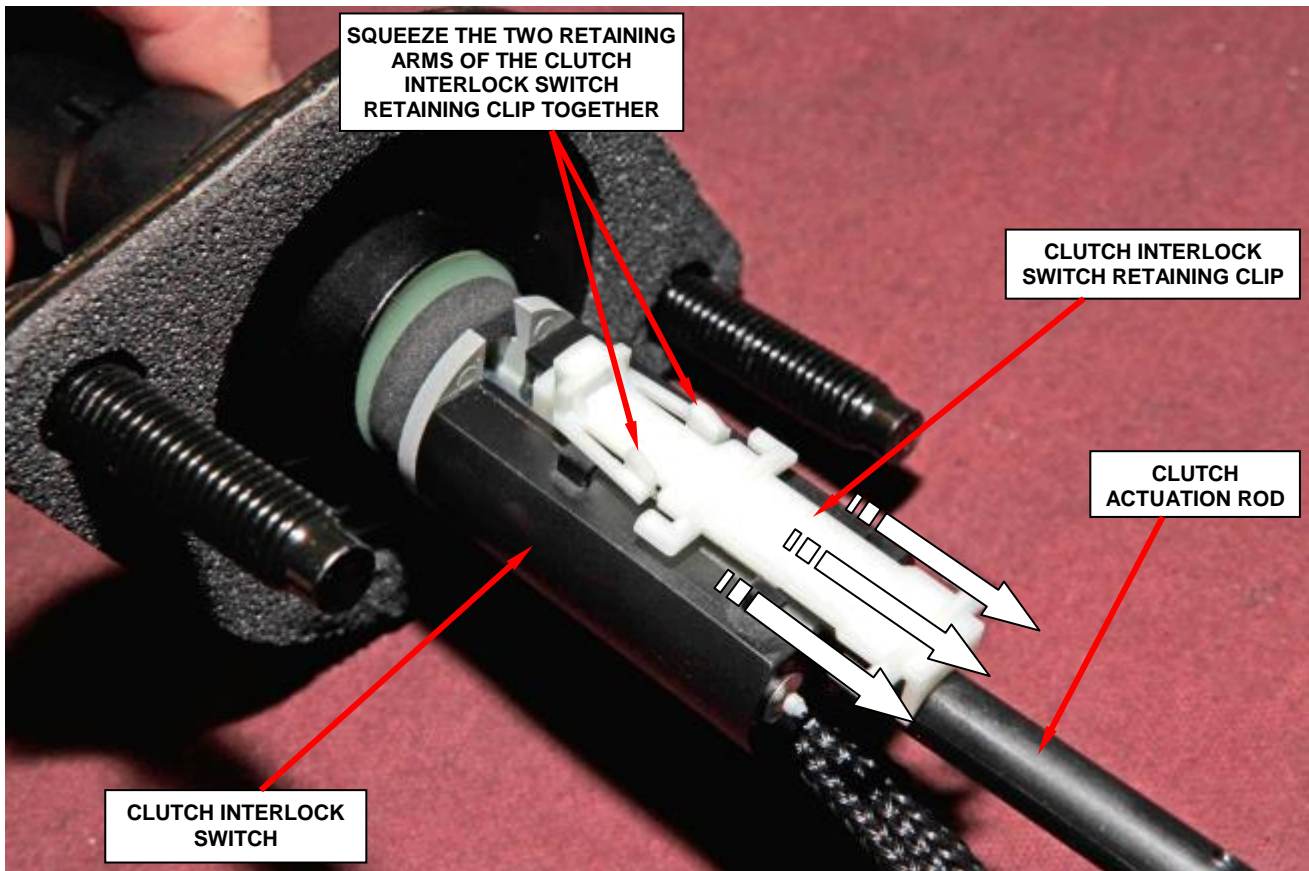

Figure 2 – Clutch Interlock Switch Retaining Clip
- a. Squeeze the two retaining arms of the clutch interlock switch retaining clip together (Figure 2).
10. Install the new white plastic clutch interlock switch retaining clip (Figure 2).